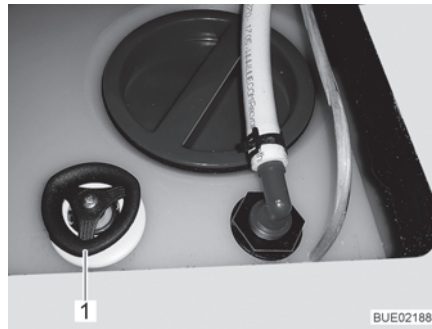

Fig. 182 Water tank with rotary handle
- Remove the cap (Fig. 182,1) of the water tank.